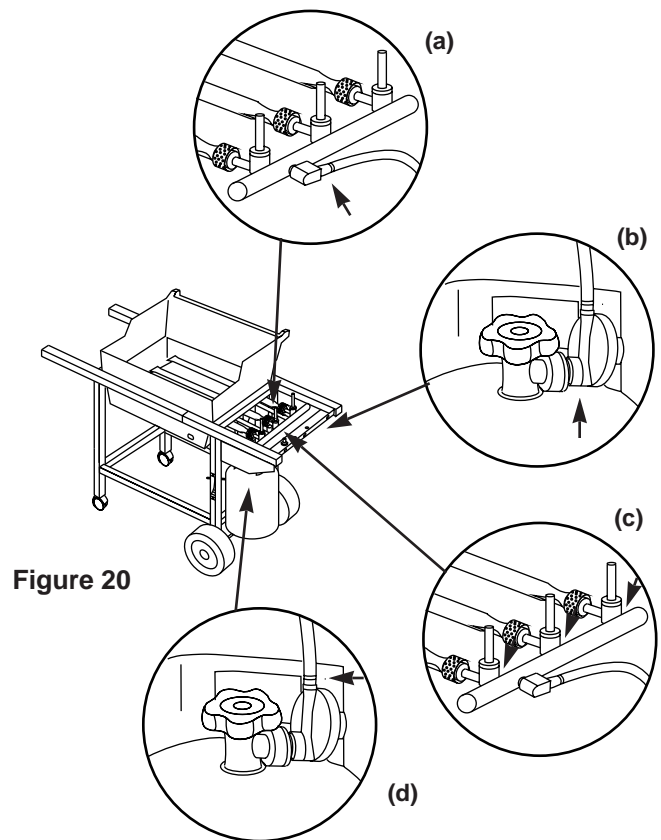

Figure 20
- Hose to manifold connection. Figure 20 (a).
- Regulator to tank connection. Figure 20 (b).
- Valves to manifold connections. Figure 20 (c).
- The hose to regulator connection. Figure 20 (d).